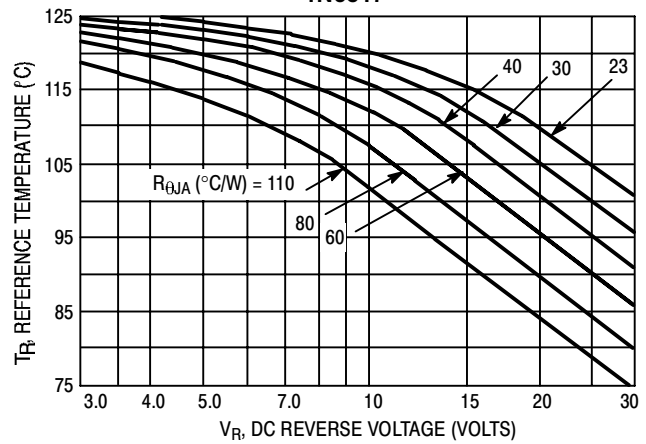

Figure 2. Maximum Reference Temperature 1N5818
Reel Dimensions - Figure 2
Step 2. Find T_R from Figure 2. Read $T_R = 109^\circ\text{C}$